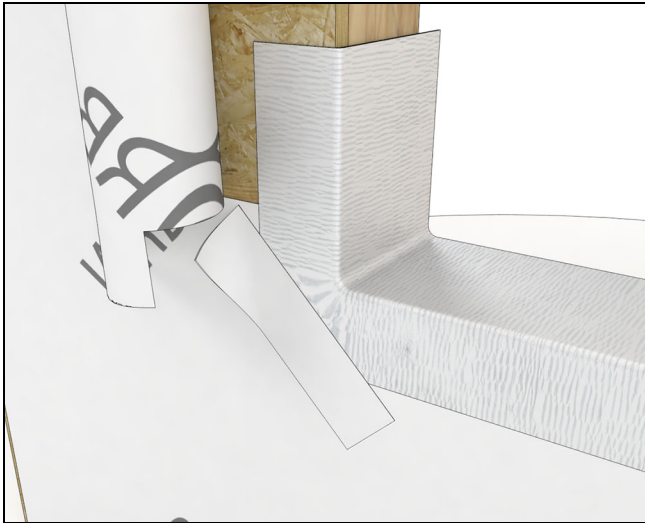

Figure 24
11. Apply seam seal tape at the corners of the flexible flashing. See Figure 24.